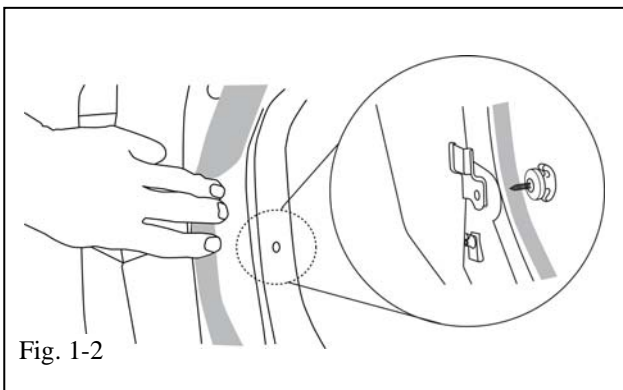

Fig. 1-2
- (b) Pull back trim panel and locate trim panel bracket. Attach panel nut over top hole in bracket, making sure hole in bracket lines up with panel nut threaded hole (Fig. 1-2).
- (c) Push trim panel back in place and thread T-anchor assembly through trim hole and tighten into panel nut. (Fig. 1-2)